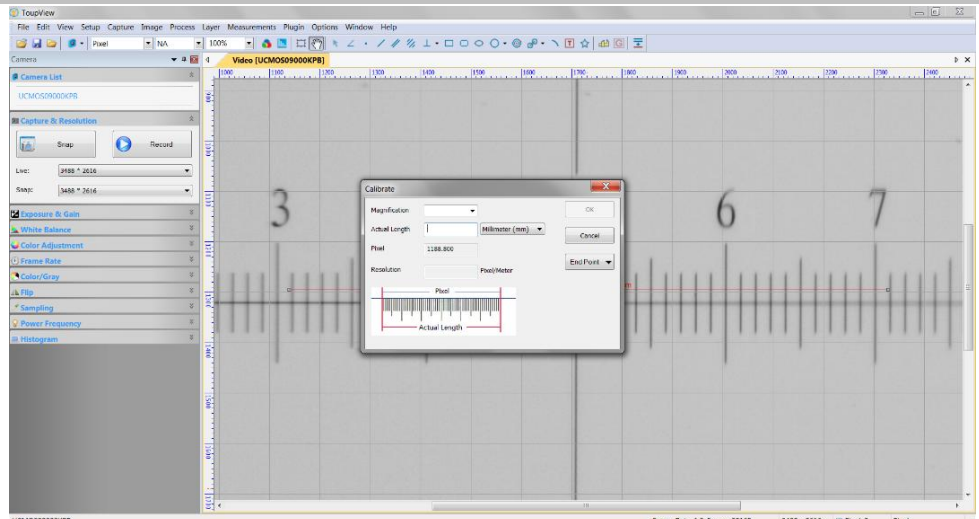

Figure 29. Default Calibrate dialog
7) Click **Options** > **Calibrate** or click on the (Calibrate) icon in the ToupView toolbar. The **Calibrate dialog** and a red line with a number of pixels and 0.000 μm are overlaid on the video window. This can be seen in Figure 29.